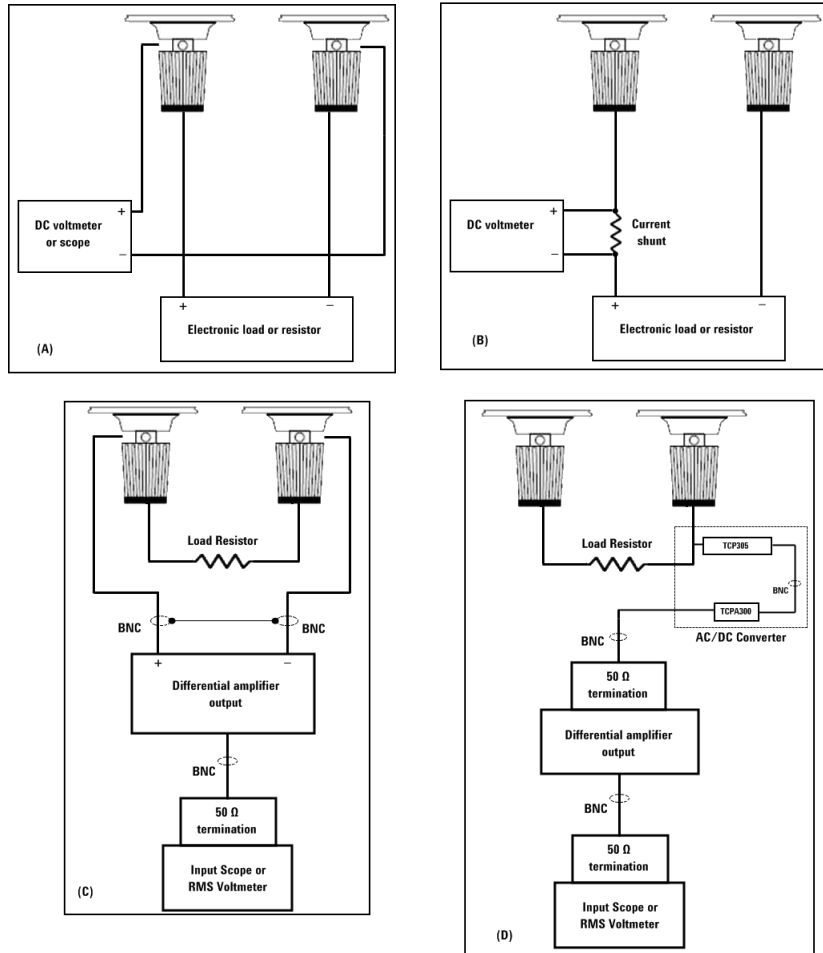

Figure 5-2 Test setups
- 1** Power off the power supply and connect a DMM between the (+) and (-) terminals of the output to be tested. Remove the electronic load or resistor block as shown in Figure 5-2\(A\), to operate as an open circuit.
- 1** Power off the power supply and connect a DMM between the (+) and (-) terminals of the output as shown in Figure 5-2\(A\).
- 1 Power-off the power supply and connect a DMM between the (+) and (-) terminals of the output to be tested as shown in Figure 5-2\(A\).
- 1** Power off the power supply and connect the output to be tested as shown in Figure 5-2\(C\) to a differential amplifier and load resistor (10 Ω for U8001A and 6 Ω for U8002A)
- 1** Power off the power supply and connect the output to be tested as shown in Figure 5-2\(A\) with an oscilloscope. Operate the electronic load in constant current mode.